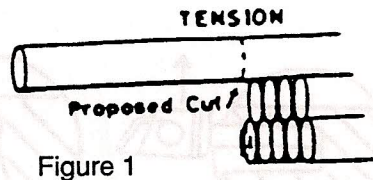

Figure 1
Tension on topside of log (see fig 1)
- 3 If the hinge is intact, use a pulling chain to remove 80% of the hinge working in the direction of roll. (Fig 1)